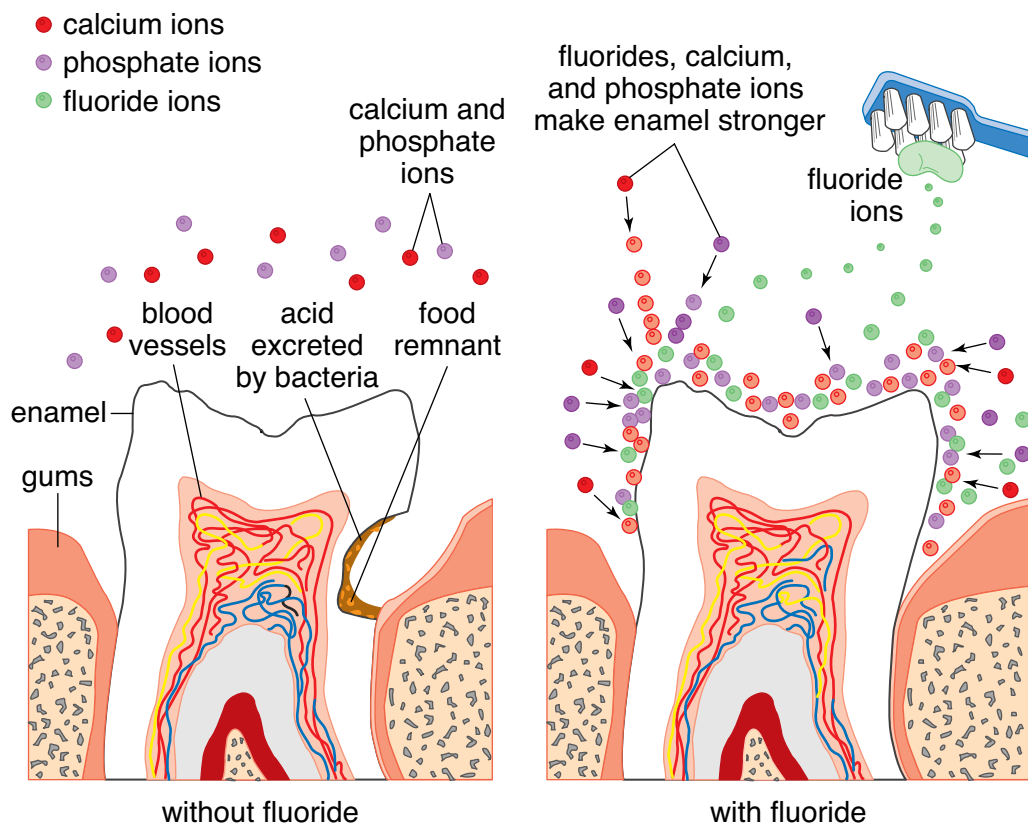

Figure 3
In the early 20th century, scientists found that fluoride had properties that would prevent tooth decay. This discovery was made based on a study of children in rural areas of Colorado who had mysterious brown stains on their teeth but had an amazingly low incidence of cavities. Upon researching and testing for the cause of the problem, it was concluded that the brown stains and the lack of tooth decay were due to the presence of fluoride ions in their drinking water. Scientists concluded that while large amounts of fluoride could cause stains on the teeth or even poisoning, small doses of fluoride, about 1 gram (g) per liter (L), added to drinking water could help to prevent cavities. Fluoride can protect teeth from decay by strengthening the enamel and preventing acid erosion of teeth (Figure 3).